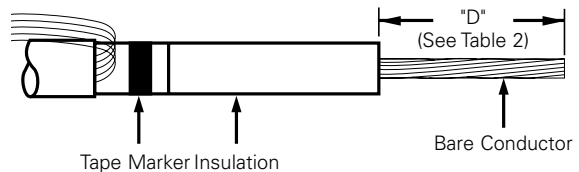

Figure 6. Line illustration of bare conductor length.
- Remove insulation exposing bare conductor to length of 4 3/8" (111 mm). (Refer to Figure 6 and Table 2 to determine variable "D" length.)